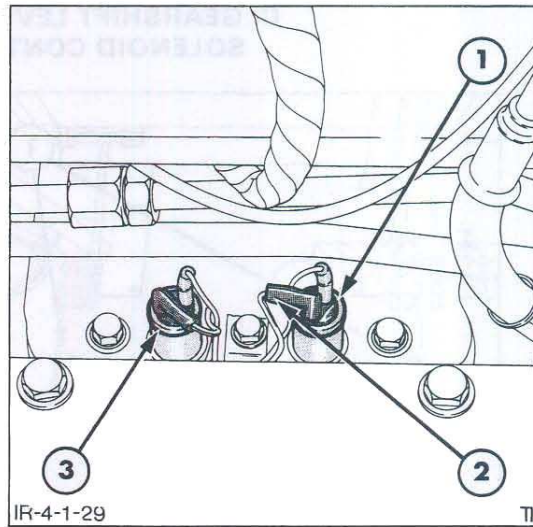

Figure 29
2. Remove the safety start switches from the transmission top cover, Figure 29, and then remove the switch plungers from the transmission housing.